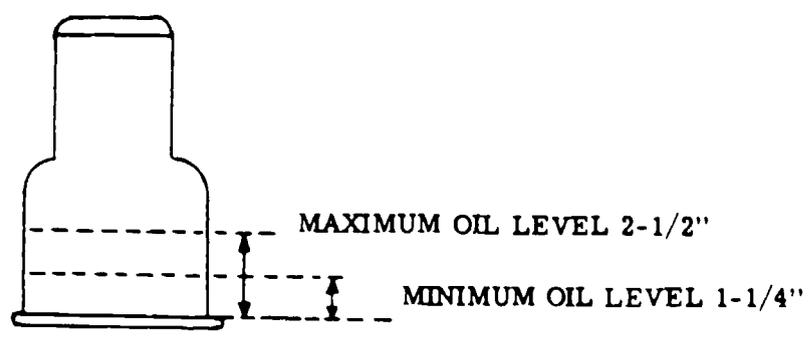

Figure 7.
9. Check the oil level in the compressor with a clean dip stick. Satisfactory oil level should range between 1-1/4" to 2-1/2" in depth (Figure 7).